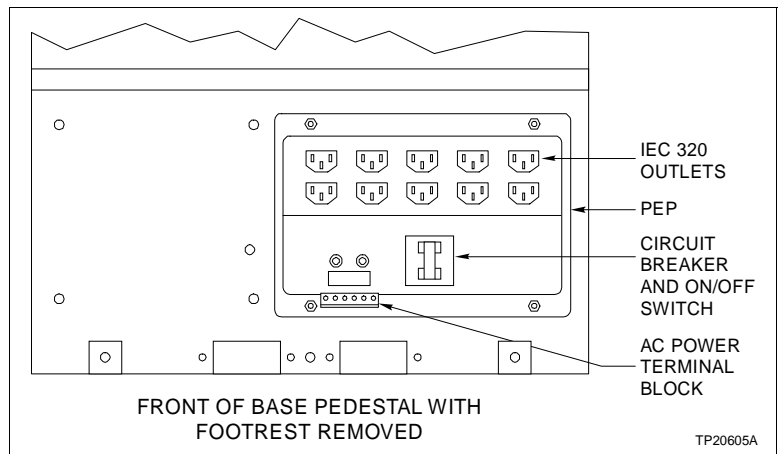

Figure PR46-1. Power Entry Panel (PEP)
2. Label and remove all cables from the IEC 320 outlets on the PEP (Fig. PR46-1).